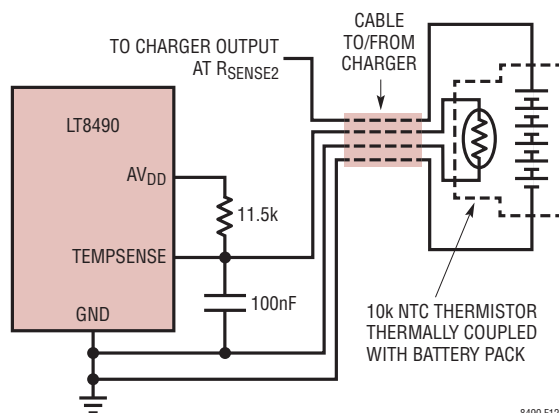

Figure 12. Battery Temperature Sensing Circuit
The LT8490 can measure the battery temperature using an NTC (negative temperature coefficient) thermistor thermally coupled to the battery pack. The temperature monitoring function is enabled by connecting a 10kΩ, $\beta = 3380$ NTC thermistor from the TEMPSENSE pin to ground and an 11.5kΩ (1% tolerance or better) resistor from AV_{DD} to TEMPSENSE (as shown in Figure 12). If battery temperature monitoring is not required, then use a 10kΩ resistor in place of the thermistor. This will indicate to the LT8490 that the battery is always at 25°C.
3. BATTERY DISCONNECT SENSING: The LT8490 detects if the battery and thermistor have been disconnected from the charger by monitoring the TEMPSENSE pin voltage. When the connection to the battery is severed, as shown by the arrow in Figure 12, the connection to the thermistor is also severed and the TEMPSENSE voltage rises up to AV_{DD} through the 11.5k Ω resistor. During the time when the battery is not present, the LT8490 halts charging. The charger automatically restarts the charging at Stage 0 when a battery (along with integrated thermistor or resistor) is sensed through the TEMPSENSE pin.